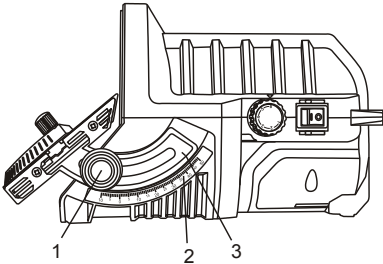

Fig. 7
1. Loosen the table angle adjustment knob (1) by turning it counterclockwise (Fig. 7).